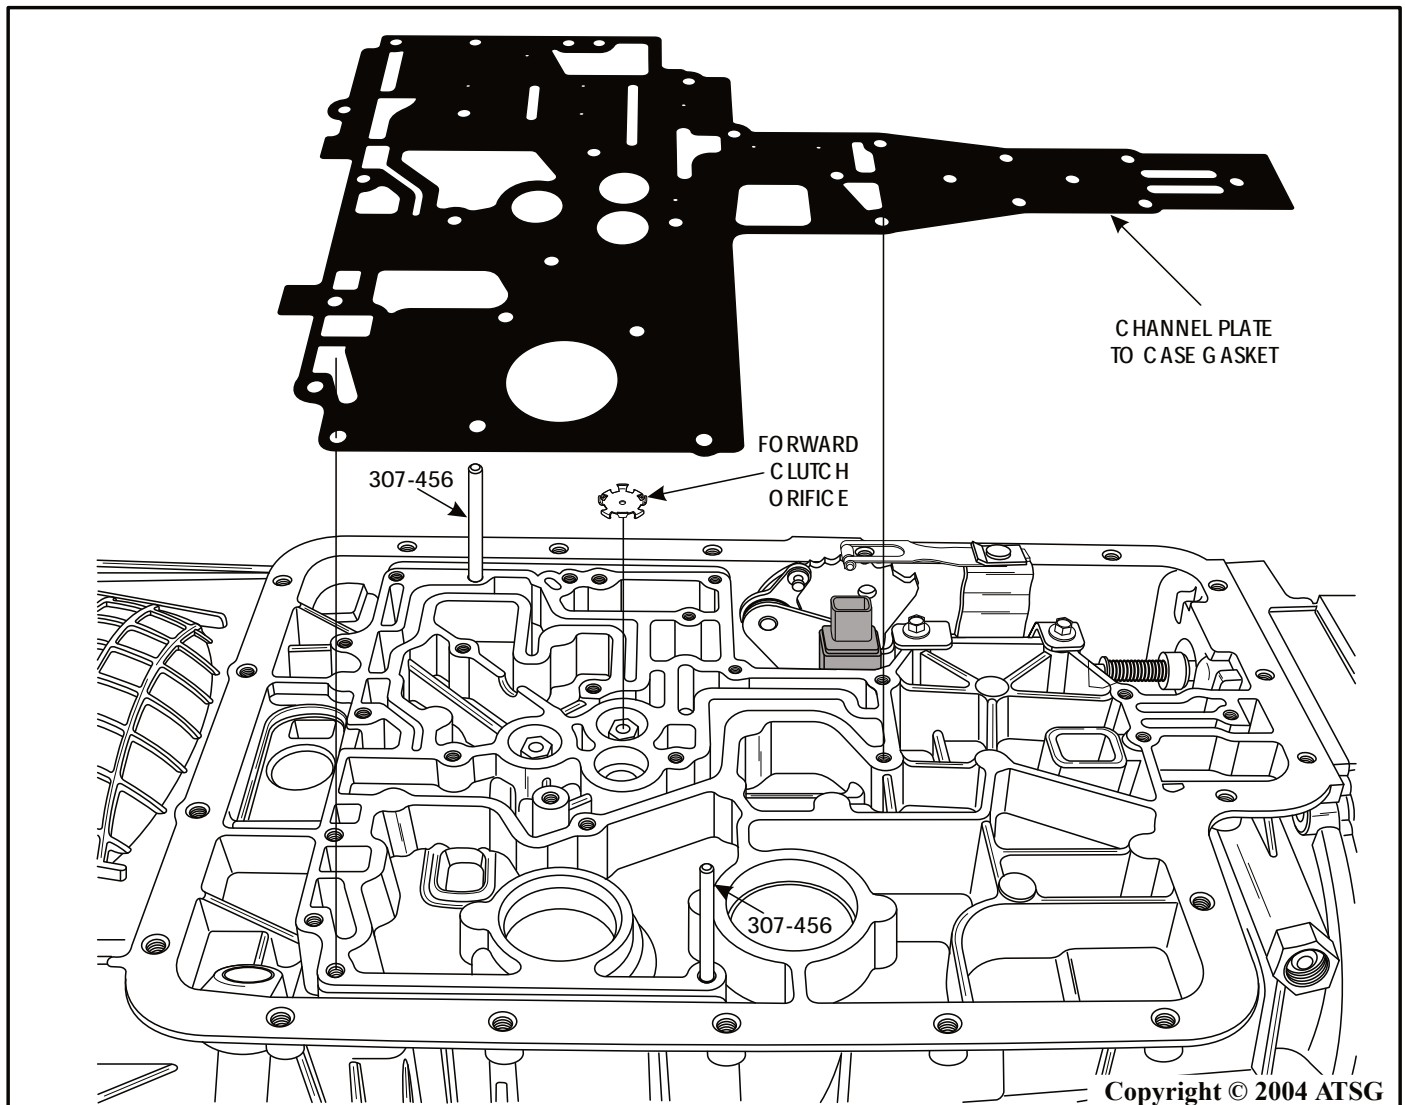

Figure 179
31. Install the forward clutch orifice on top of the center support bolt, as shown in Figure 179.
32. Install a new channel plate to case gasket, as shown in Figure 179, over the locating dowels.